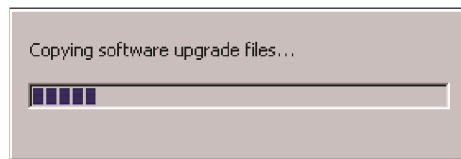

Figure 4.55 Upgrade Utility
3. The 9220 upgrade utility will display a progress screen and will automatically begin processing the upgrade (Figure 4.55).